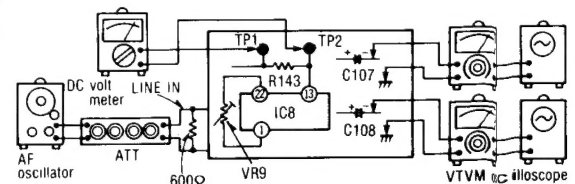

Fig. 20
1. Make the connections as shown in fig. 20 and apply $1 \text{ kHz} -27 \text{ dB}$ signal from LINE IN, and set the noise reduction selector to dbx tape position.